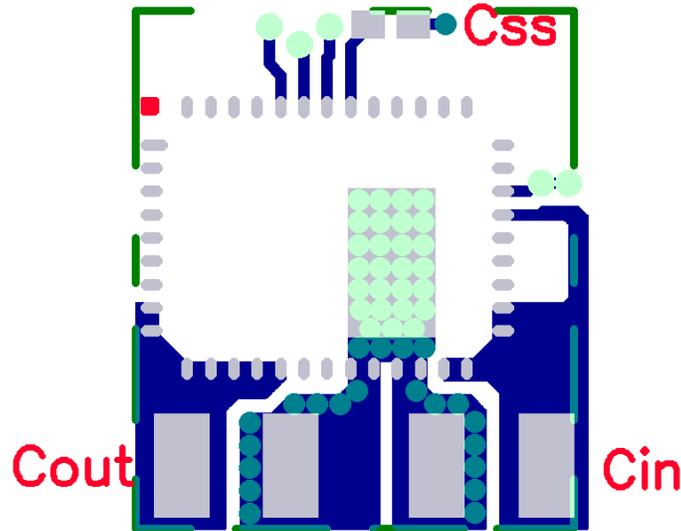

Figure 4: Optimized Layout Recommendations
Figure 4 shows critical components and layer 1 traces of a recommended minimum footprint EN5335QI layout. Alternate ENABLE configurations and other small signal pins need to be connected and routed according to specific customer application. Please see the Gerber files on the Intel website [www.intel.com/enpirion](http://www.intel.com/enpirion) for exact dimensions and other layers. Please refer to Figure 4 while reading the layout recommendations in this section.
**Recommendation 2:** Two PGND pins are dedicated to the input circuit, and two to the output circuit. The slit in Figure 4 separating the input and output GND circuits helps minimize noise coupling between the converter input and output switching loops.
**Recommendation 5:** Multiple small vias (the same size as the thermal via discussed in recommendation 4) should be used to connect ground terminal of the input capacitor and output capacitors to the system ground plane. It is preferred to put these vias under the capacitors along the edge of the GND copper closest to the +V copper. Please see Figure 4. These vias connect the input/output filter capacitors to the GND plane, and help reduce parasitic inductances in the input and output current loops. If the vias cannot be placed under  $C_{IN}$  and  $C_{OUT}$ , then put them just outside the capacitors along the GND slit separating the two components. Do not use thermal reliefs or spokes to connect these vias to the ground plane.
**Recommendation 6:** AVIN is the power supply for the internal small-signal control circuits. It should be connected to the input voltage at a quiet point. In Figure 4 this connection is made at the input capacitor close to the  $V_{IN}$  connection.
**Recommendation 7:** The layer 1 metal under the device must not be more than shown in Figure 4. See the section regarding exposed metal on bottom of package. As with any switch-mode DC-DC converter, try not to run sensitive signal or control lines underneath the converter package on other layers.